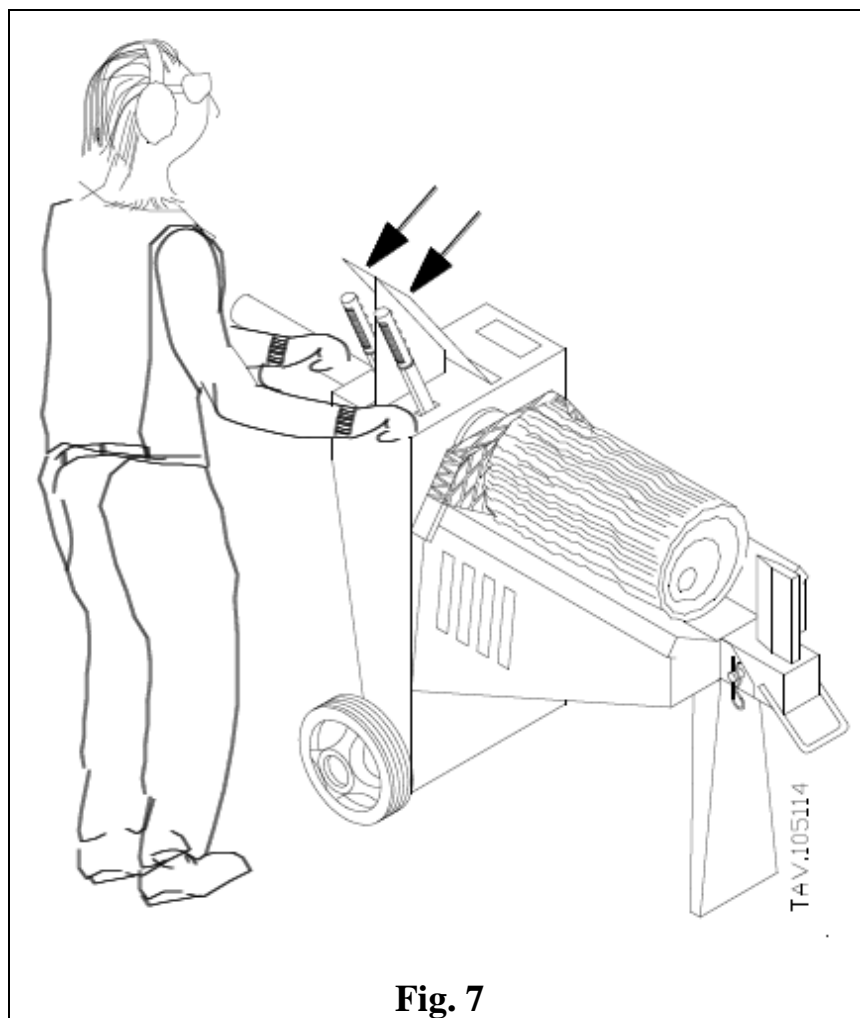

Fig. 7
- Keep hands on the starting switch, as shown in figure 7 on the cover, during cutting operations. In any case, keep your hands off any moving part.